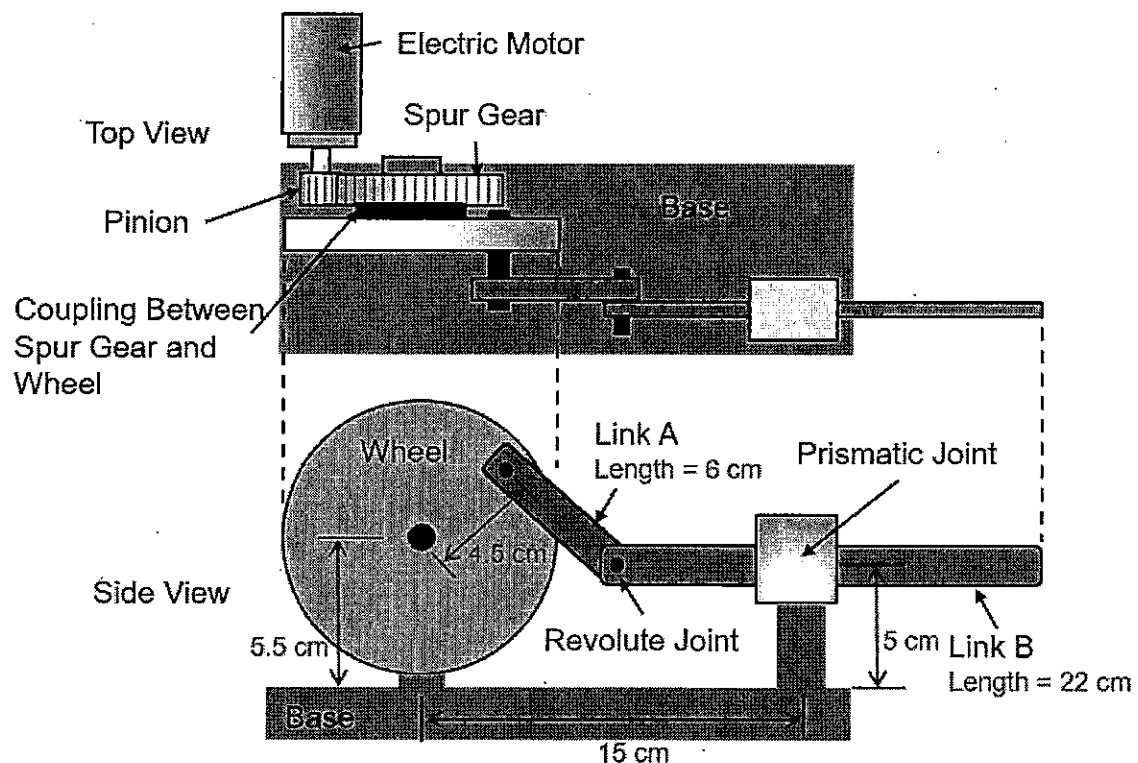

Figure Q1.
Figure Q1 shows a crank-and-slide mechanism driven by an electric motor with gearset.
- (a) Analyze the degree of freedom for the planar linkages using Gruebler-Kutzbach method. List down all the links and joints in Figure Q1 (You may sketch a figure and label all the joints and links).
- (c) For the gear system shown in Figure Q1, determine the output torque if the pinion is driven by an electric motor with torque of 0.012 N/m at the output shaft. The number of teeth in pinion is 14, while the number of teeth in the spur gear is 70. Ignore any frictional force.